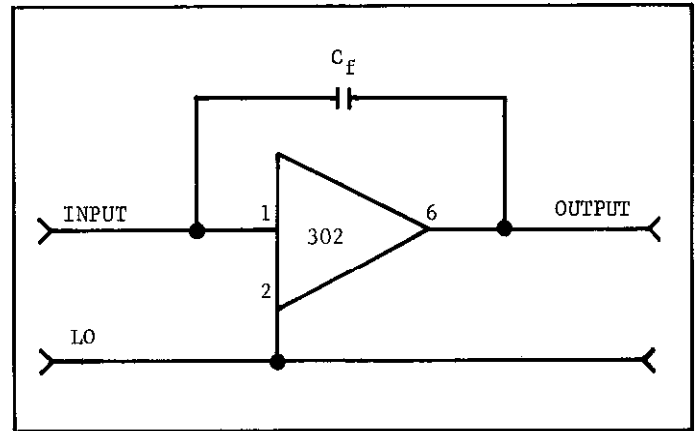

FIGURE 10. Current Integrator.
e. Current Integrator or Charge Amplifier. In this configuration, a feedback capacitor C_f is connected between the Input (Pin 1) and the Output (Pin 6). The capacitor should be a low-leakage type such as polystyrene, mylar, or polycarbonate. Fractional feedback can be used to vary the sensitivity without changing capacitors. See Figure 10.